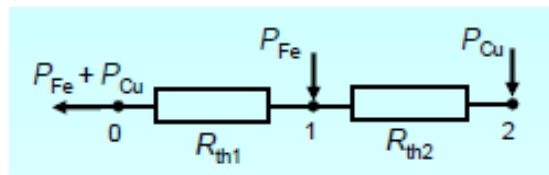

Fig. 23: Thermal equivalent network of the stator iron stack and stator copper winding
The temperature rise in the stator iron stack and stator copper winding of a 4-pole 11 kW squirrel cage induction motor for 400 V Y, 50 Hz, has to be calculated for rated steady state operation after turning on the cold machine. The air-cooled motor is totally enclosed with a shaft-mounted radial fan (TEFC). The thermal resistance between the stator iron stack in the housing and the outside air is determined by the cooling fins as $R_{th1} = 0.072$ K/W, and that of the electrical insulation between the stator winding in the slots as $R_{th2} = 0.047$ K/W. The stator winding copper mass and specific heat capacity are $m_{Cu} = 4.8$ kg, $c_{Cu} = 388.5$ Ws/(kgK); the corresponding values for the stator iron stack are $m_{Fe} = 22.5$ kg, $c_{Fe} = 502$ Ws/(kgK). The losses in the stator winding and stator iron stack are constant as $P_{Cu} = 554$ W, $P_{Fe} = 260$ W. Use in the following the simplified thermal equivalent network of Fig. 23. The masses of the housing and of the end shields and the corresponding heat flow are neglected as well as the rotor copper, friction and additional losses!
- 2) Give for the system of Fig. 23 one resulting differential equation a) for $\Delta\vartheta_{Cu}$, b) for $\Delta\vartheta_{Fe}$. Comment the result!